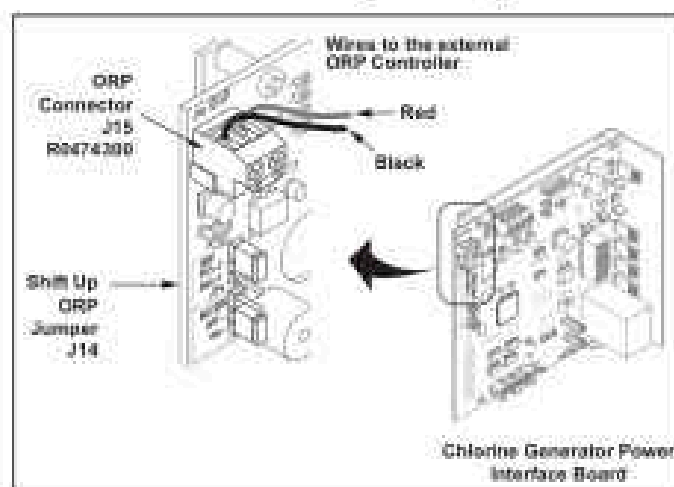

Figure 6. ORP Connection
To connect the TruDose Chemical Controller to a Jandy saltwater chlorinator, you will need to connect the preinstalled 24VDC cable from the TruDose Chemical Controller to the Power Interface Board (PIB) in the saltwater chlorinator power pack. The ORP Jumper on the Saltwater Chlorinator power pack PIB board will need to be moved to Position 2. See Figure 6 for instructions how to move the ORP Jumper to Position 2 on the power pack PIB.
2. Move the ORP Jumper from the two bottom pins to the two top pins. See Figure 6.
3. Connect the TruDose 24VDC cable to the dedicated 2-pin connector J15 on the AquaPure power center PIB. See Figure 6.
NOTE: The black wire must be connected to the left and the red to the right. See Figure 6.